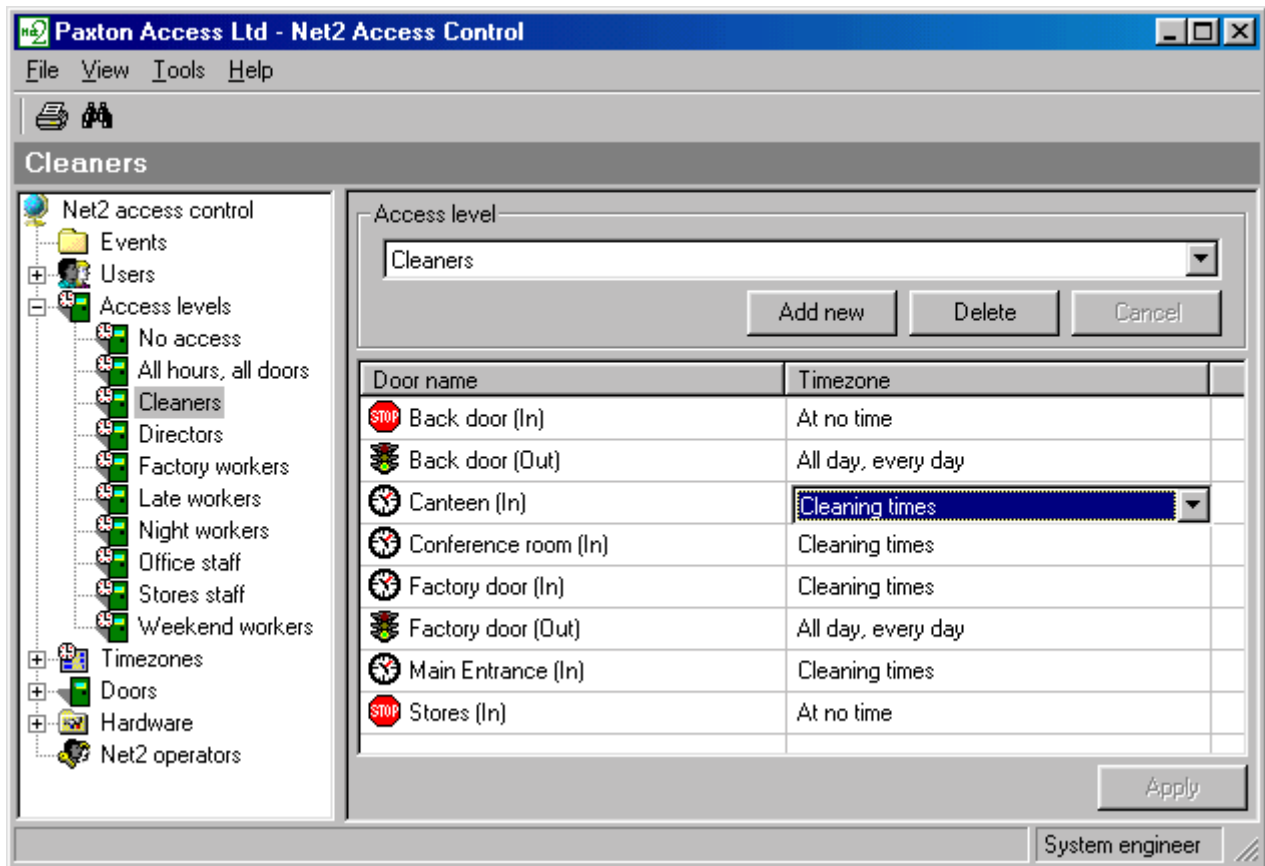

Figure 4.11
2. Make the required changes to the access level, see figure 4.11.